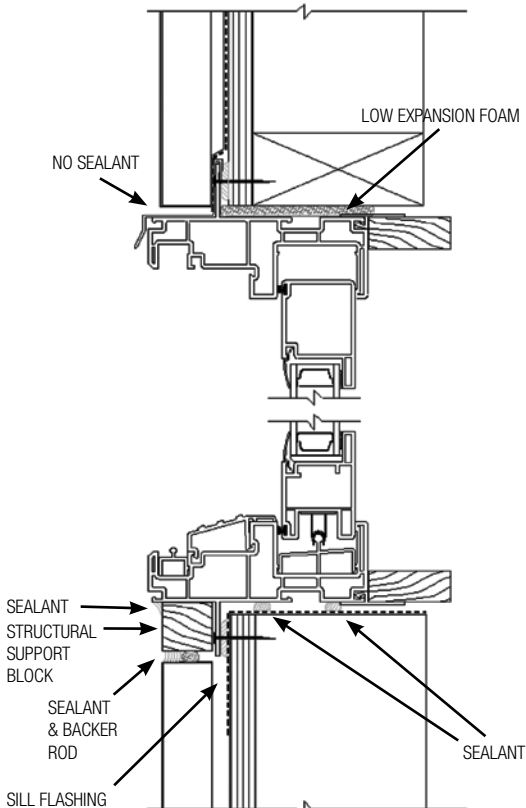
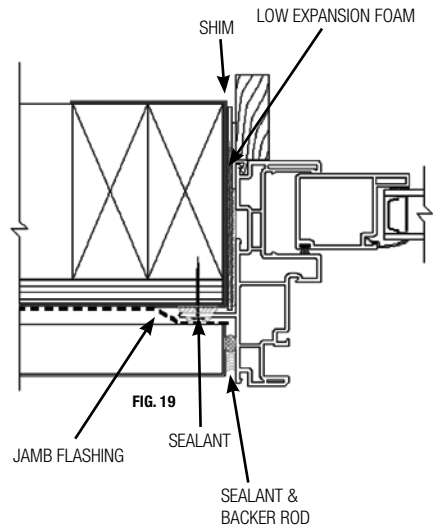

FIG. 18
FIG. 19
A) Support material is required on exterior sections of sliding patio doors. Install a structural wood support block at sill. (Fig 18)
C) After siding or wall exterior is complete, apply backer rod and sealant between the door frame and siding material on both sides and sill. Make sure to use 100% neutral cure silicone sealant. (Fig 19)
- A) Install a seal around the full interior perimeter of the opening. On the side/jamb and top, apply minimally expanding window and door spray foam insulation. Use caution not to overfill the gap, causing the side/jamb to bow. It is not recommended to apply trim to the unit until the foam has cured to allow excess to escape. On the sill, apply a bead of sealant between the sill flashing and the window frame (Fig.18 & Fig.19)